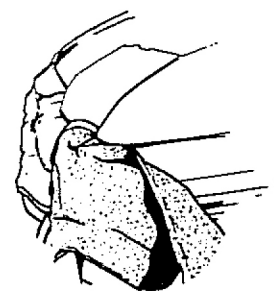

figure 7
2.5 Fender corner pockets slide around the forward point of the fender like a hand slides into a mitten as shown in figures 7 & 8.